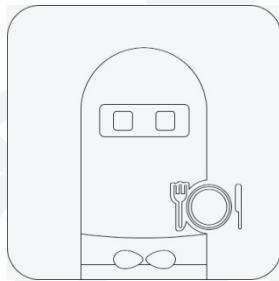

Figure 4. Icon of the PEANUT APP
- ① Once the robot is powered on, the boot logo, PEANUT animation, and Android desktop will be displayed in turn. The startup takes about 40 seconds.
- ② The PEANUT APP will be launched automatically upon startup by default. If the PEANUT APP is not launched, tap the icon of the PEANUT APP (see Figure 4) on the system desktop to launch it.